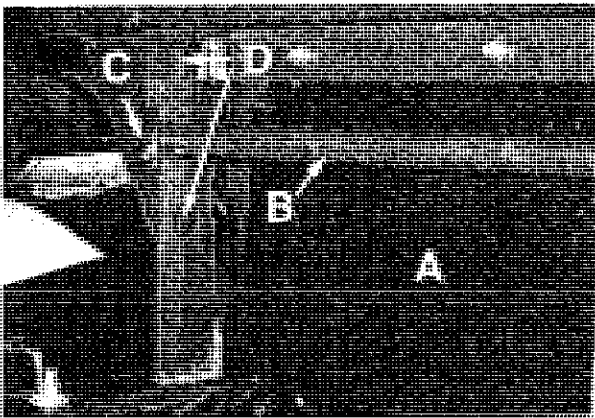

Figure 37. Tank Discharge Gate
An adjustable gate is provided in the tank discharge opening. Refer to Figure 37. The gate consists of a flexible curtain (A) that is held by an adjustable tube (B). The tube can be raised or lowered to change the rate of discharge to the wheel elevator. Adjust the gate to match various beet sizes, unloading speeds, and operating conditions. To change the discharge rate, remove the D-pins (C) that secure the tube in the available mounting holes (D), and install the tube in a different location. Raising the tube increases the discharge rate, and lowering it reduces the discharge rate.